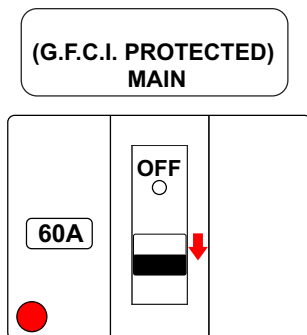

Figure 23. Main Circuit Breaker (CB1)
1. To protect the welder-generator from an overload, a 3-pole, 60 amp, **main** circuit breaker (CB1) is provided. Place this breaker (Figure 23) in the **OFF** position prior to starting the engine.